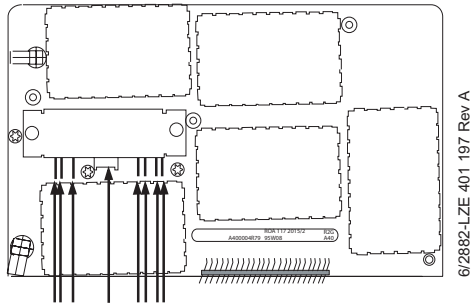

Figure 13 Locating the seven pins and the small metallic tongue to be cut off.
8. Lift off the loosened metallic cover. The Beryllium Oxide component is now visible. Cut the seven pins and the small metallic tongue as per Figure 13.